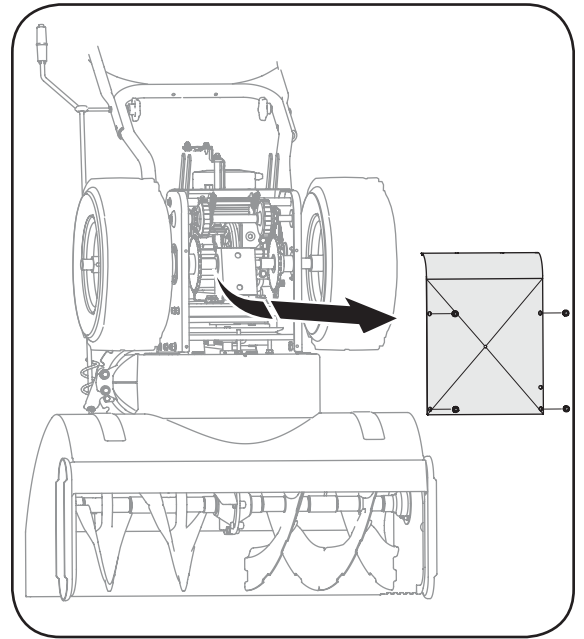

Figure 5-2
2. Remove the frame cover underneath the snow thrower by removing the self-tapping screws. See Figure 5-2.